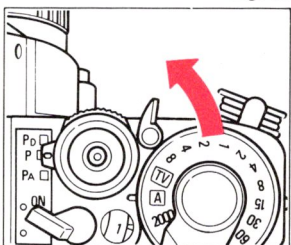

Fig. 62
- ★ Turn the ME Lever to the second click position (About 60°) to make multiple exposures. Then the ME Lever will not return to the original position even if the Film Advance Lever is operated. (Fig. 62)